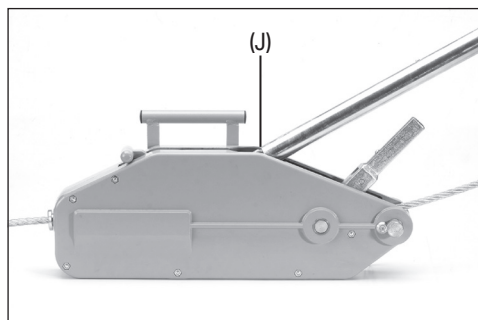

Fig. 6
6.4 Lowering A Load (fig.6)
- **Use reverse operation** – fit the extendable handle to (J). Move the handle back and forth to push the wire back through the puller.